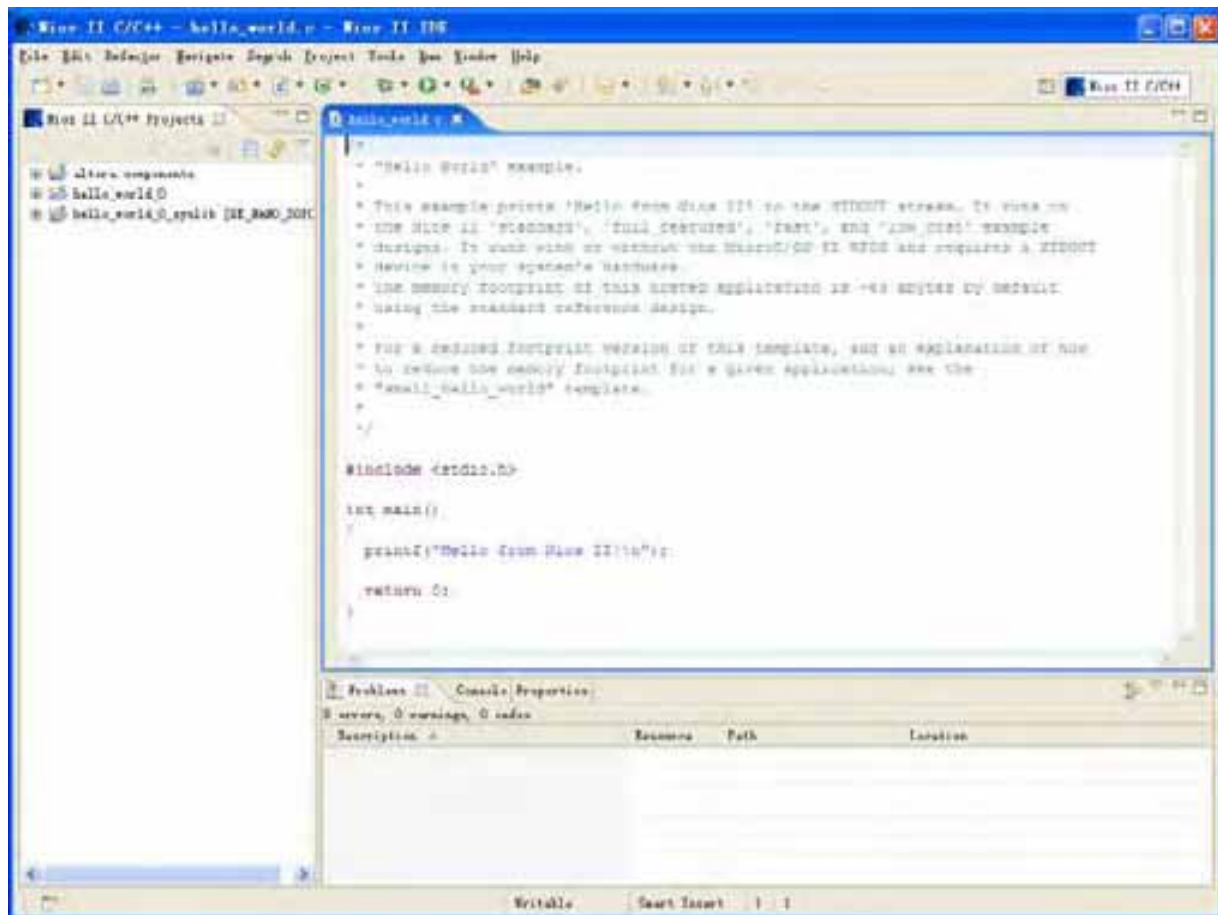

Figure 7-56 Nios II IDE C++ Project Perspective for hello_world_0
5. Click **Finish**. The NIOS II IDE creates the **hello_world_0** project and returns to the NIOS II C/C++ project perspective, as shown in Figure 7-56.